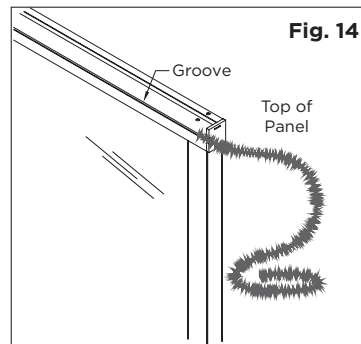

Fig. 14
3. Locate the channel/groove on back of the panels and slide the strips in from the top. See Figure 14.